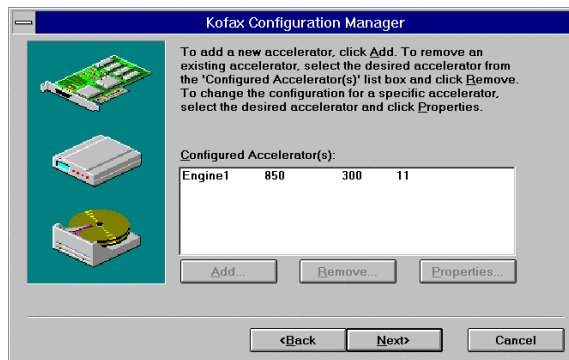

Figure 7. KCM Configured Accelerators Dialog Box
- 2 Click Next. A dialog box opens, similar to Figure 7: